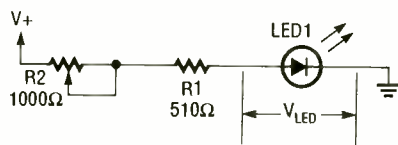

Fig. 2. Since LED intensity is linearly related to the input current this circuit can be used to vary the LED's brightness via R2.
Since the resulting curves are nearly linear for most of their range, the light intensity can obviously be controlled by varying the current flow through the LED. In other words, we can make a variable-brightness control by controlling the current through the LED. Figure 2 shows the use of a variable resistor, R2, for that purpose. The LED current (I) in amps is equal to:
Note in Fig. 2 that R2 uses only two terminals. Use either the middle terminal and either end terminal, or short the middle terminal and one end terminal together and use this joined terminal and the remaining terminal as the variable resistor.